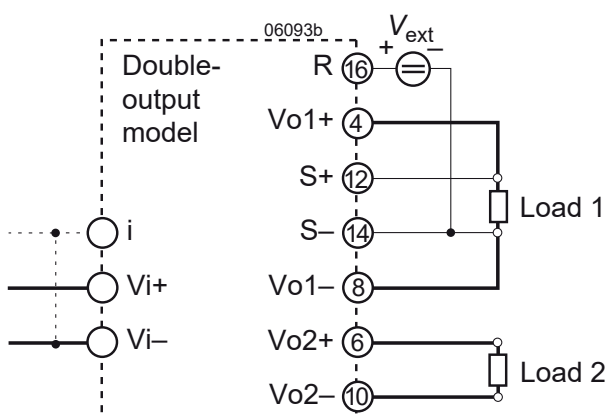

Fig. 20
a) Adjustment by means of an external control voltage V_{ext} between R (pin 16) and S– (pin 14); see fig. 20.